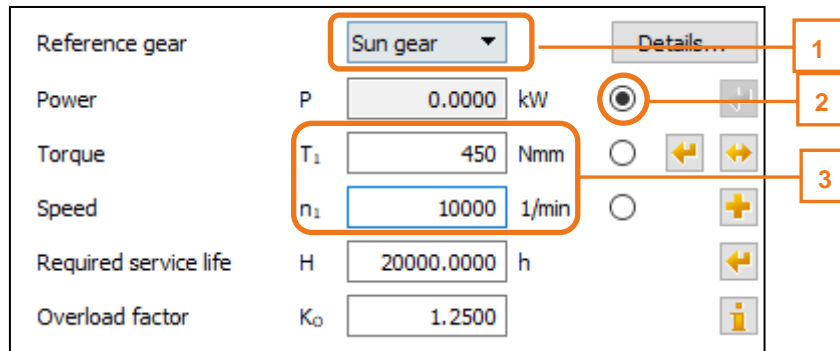

Figure 9. Specifying the load
Specify the required calculation method (1). Then input the application factor (2) and the service life (3). Click the «radio button» next to the Power field to define the load, see Figure 9.
Define the reference gear (1), the calculated value (2) (if the torque and number of rotations have been defined, the performance will be calculated) and input the data for the number of rotations and torque (3) (see Figure 9).